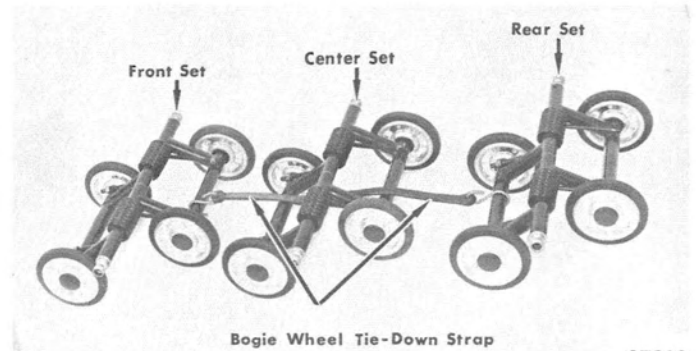

Figure 2. Bogie Wheel Sets
3. Disconnect bogie tie-down strap. (Figure 2)